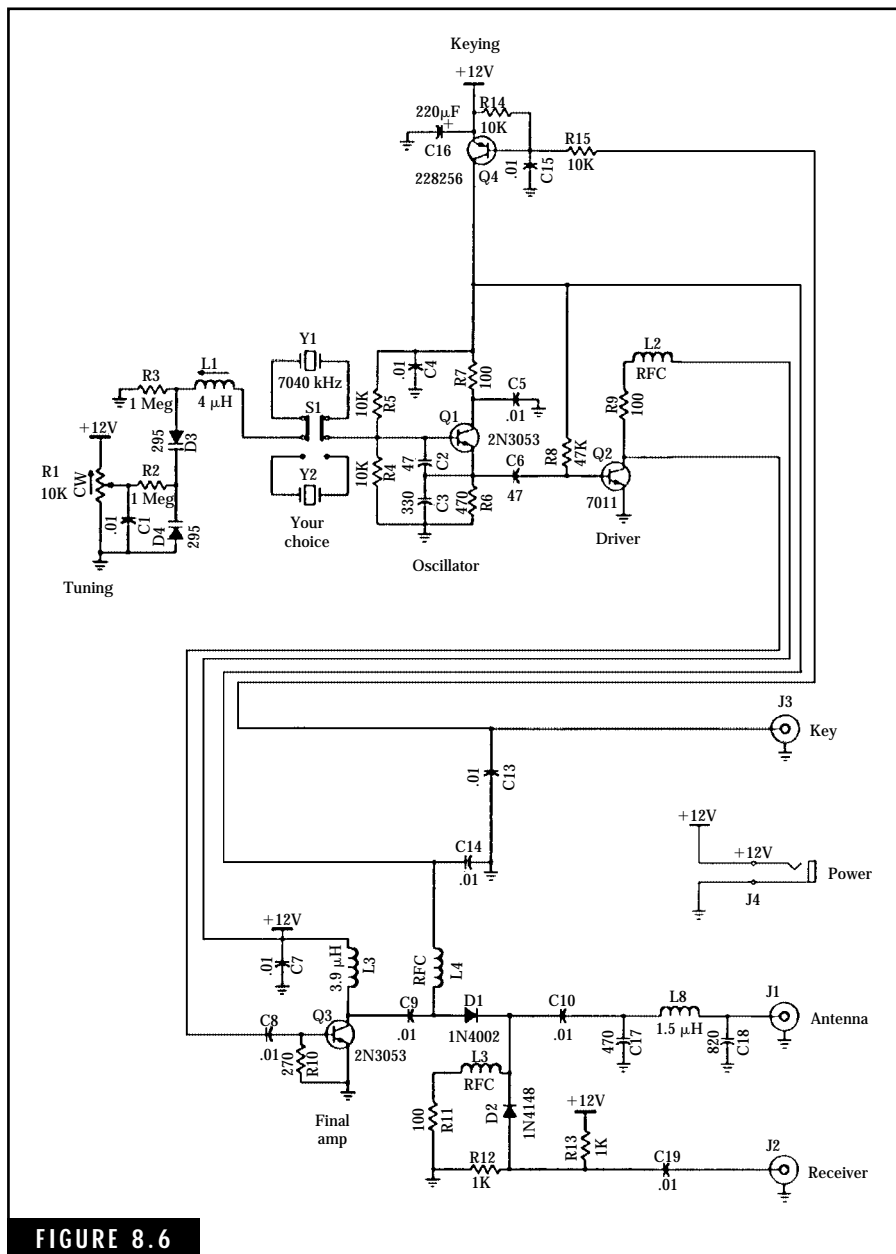
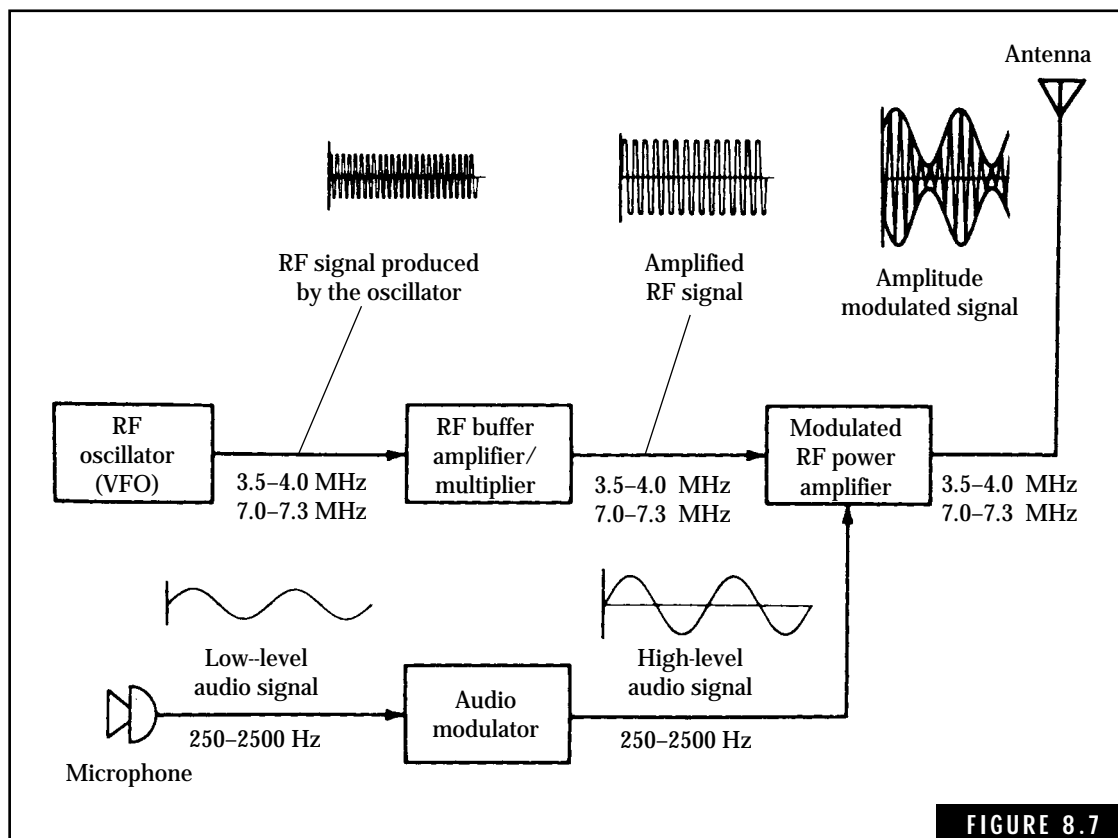

FIGURE 8.6
FIGURE 8.7
A schematic for a modified crystal-controlled MOPA CW transmitter, developed by Ramsey Electronics Inc., is given in Fig. 8.6. This CW transmitter, capable of providing about 1 watt of output power and switchable in frequency between two crystals, incorporates a driver stage between the crystal oscillator and final amplifier stages to improve RF frequency and keying stability. The QRP-40 VXO Transmitter is available in kit form from Ramsey Electronics Inc., 793 Canning Parkway, Victor, NY 14564 [telephone: (716) 924-4560; internet address: www.ramseyelectronics.com]. The kit includes all required parts, including a predrilled PC board and a complete manual for assembly, test, and operation. This PC board permits easy modification of the existing circuit and/or installation of additional circuits for later upgrades. A plastic case and knob kit is also available to house the transmitter for easy installa-
Amplitude modulation is produced when the amplitude of a radio carrier wave is varied in proportion to a modulating signal such as an audio or voice signal originating from a microphone. Figure 8.7 shows a block diagram of an AM transmitter. The only observable difference between the CW transmitter and the AM transmitter is the addition of a speech or audio modulator, which is capable of varying the amplitude of the output RF carrier wave. In fact, an “outboard” modulator could be added to the QRP CW 40-meter transmitter in Fig. 8.6 for phone operation. Although most hams today use SSB modulation, some hams prefer AM phone on 75- and 40-meter bands.
Here's how the AM transmitter in Fig. 8.7 works. Note that the RF sections of this transmitter (VFO RF oscillator, RF amplifier/multiplier, RF power amplifier) are similar to the MOPA CW transmitter in Fig. 8.6. With the addition of a telegraph key circuit, the transmitter in Fig. 8.7 is capable of either CW or AM phone operation on all HF bands between 3 and 30 MHz. The speech modulator amplifies the low-level audio signals from the microphone, producing a high-level audio signal. This high-level signal is applied to the RF power amplifier stage, causing the amplitude of the carrier wave to be varied from nearly zero to about twice the amplitude of the unmodulated wave. If the modulating signal is applied to the modulation stage output circuit of the RF power amplifier stage, this is referred to as *high-level modulation*. (High-level modulation for